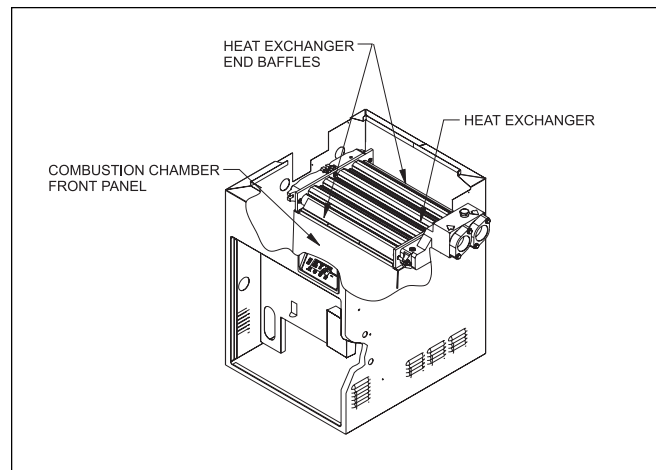

Figure 11. Heat exchanger and end baffles
11. When removing the heat exchanger from the heater (sizes 125, 175 and 250 only), the end baffles of the heat exchanger must be removed. There are two baffles covering part of the front and rear tubes of the heat exchanger. Each baffle is held in place by two screws which mount to the top of the combustion chamber wall. Remove the screws and the baffles before attempting to lift the heat exchanger out of the heater (see Figure 11).